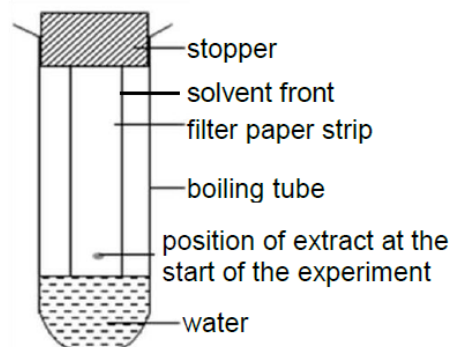

Fig 2.3
- (ii) An alternative set-up for the above experiment was shown in Fig 2.3 below.